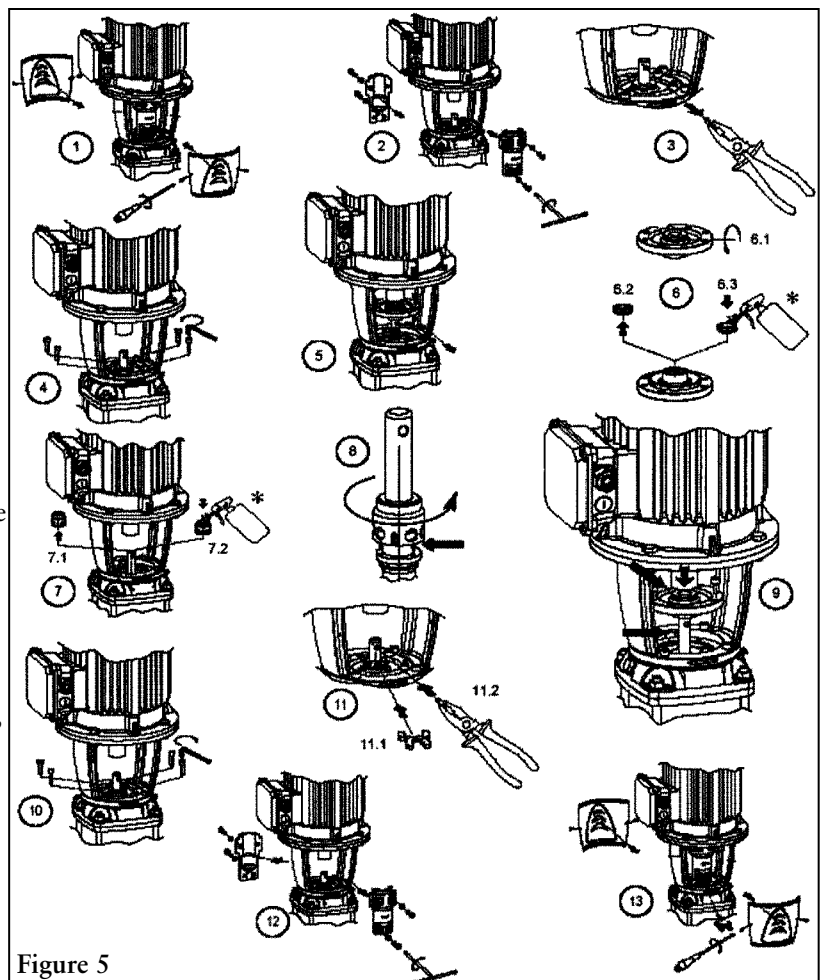

Figure 5
7. Remove the rotary portion at the mechanical seal by sliding the rotary unit axially upwards along the pump shaft. Inspect the pump shaft for any burrs or debris. Any burrs should be ground smooth with (fine grit) emery paper. See step 7 in Figure 5.
8. Lubricate the o-ring located in the ID of the rotary unit of the mechanical seal with a lubricant compatible with the seal elastomers. Carefully slide the rotary unit of the mechanical seal down the shaft. Rotate the seal to locate the pin on the bottom of the seal with the holes in the shaft sleeve. See step 8 in Figure 5.
Carefully reinstall the seal housing between the pump and motor shaft and slide the seal housing down the shaft into position. Use caution when mounting the sealhousing between the pump/motor shaft so that the seal face on the stationary seat is not damaged. See step 9 in Figure 5.
10. Reinstall the 4 hex cap screws tightening the screws evenly and then torquing them to the values given in the engineering data. See step 10 in Figure 5.
11. Reinstall the coupling pin and locate the space shim on the shaft on the seal housing. If the shim is not available, a 5 mm spacer can be used. See step 11 in Figure 5.
12. Reinstall the coupling halves and evenly tighten the coupling bolts and torque them to the values given in the coupling section. Remove the spacer shim and save for future use. See step 12 in Figure 5.